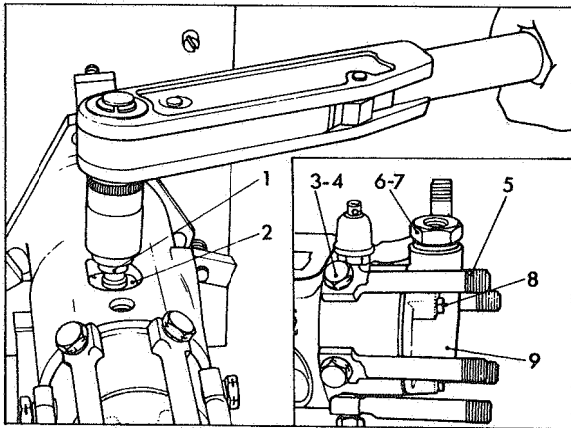

Fig 72 Loosening cam advance screw
Using Tool Part No 7144-125A as shown in Fig 72, slacken cam advance screw (1). If necessary, lightly tap cam advance screw to release cam ring (2). Remove cam advance screw. Invert the fixture in vice. Remove fuel connection studs and washers (3 & 4) and banjo connections (5) noting their position and type, also the letter identification against the outlet holes.